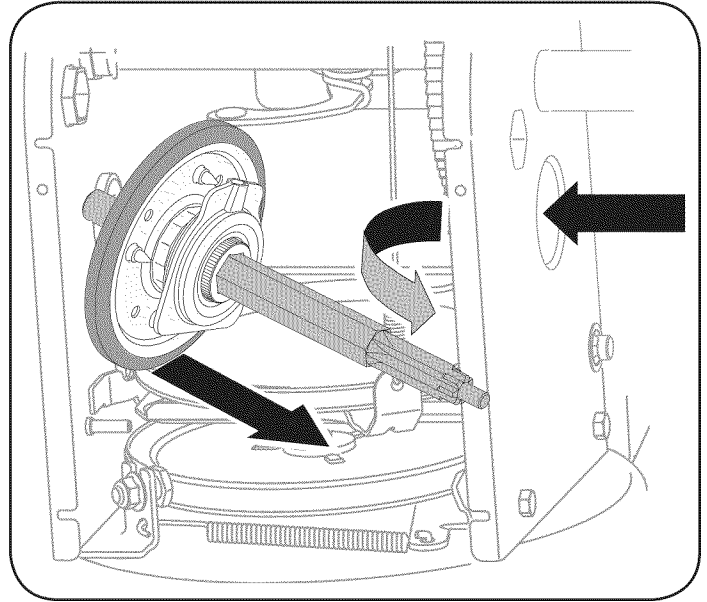

Figure 31
7. Carefully position the hex shaft downward and to the left before carefully sliding the friction wheel assembly off the shaft. See Figure 31.